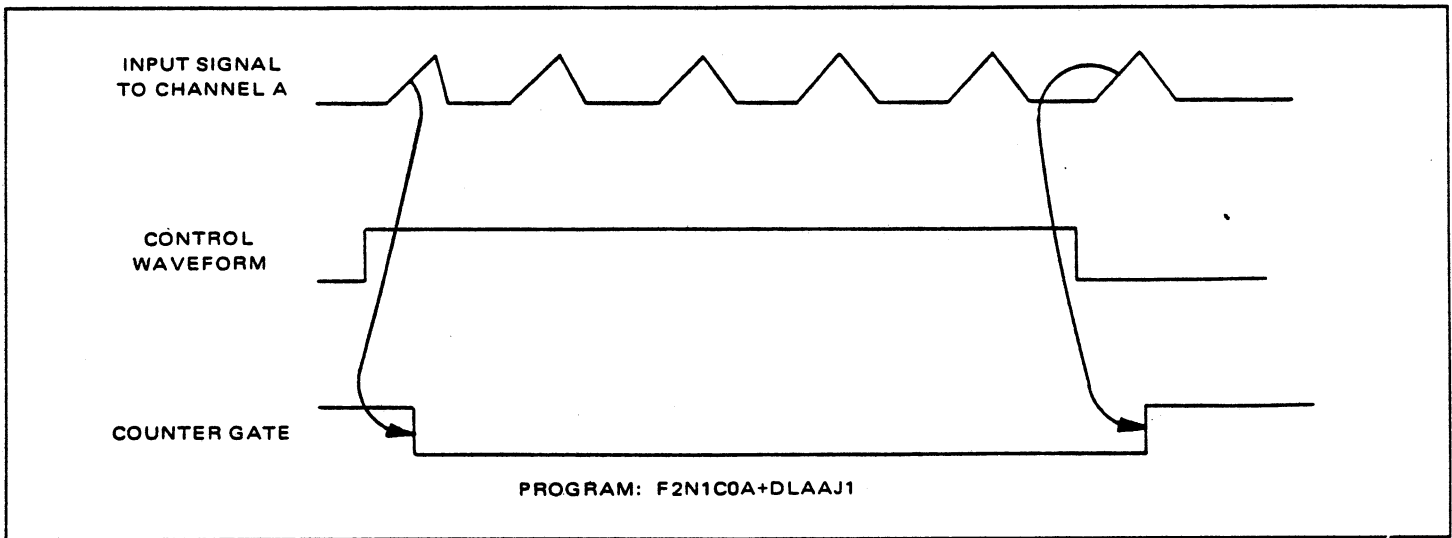

Figure 3.10 - Selective Gate Example 3
3.2.11.3.4.1 When programmed as shown and when provided with a control waveform with a length greater than five measurement waveform cycles, the counter will measure the period between the leading edges of the first and sixth measurement waveform cycles as shown in Figure 3.10.